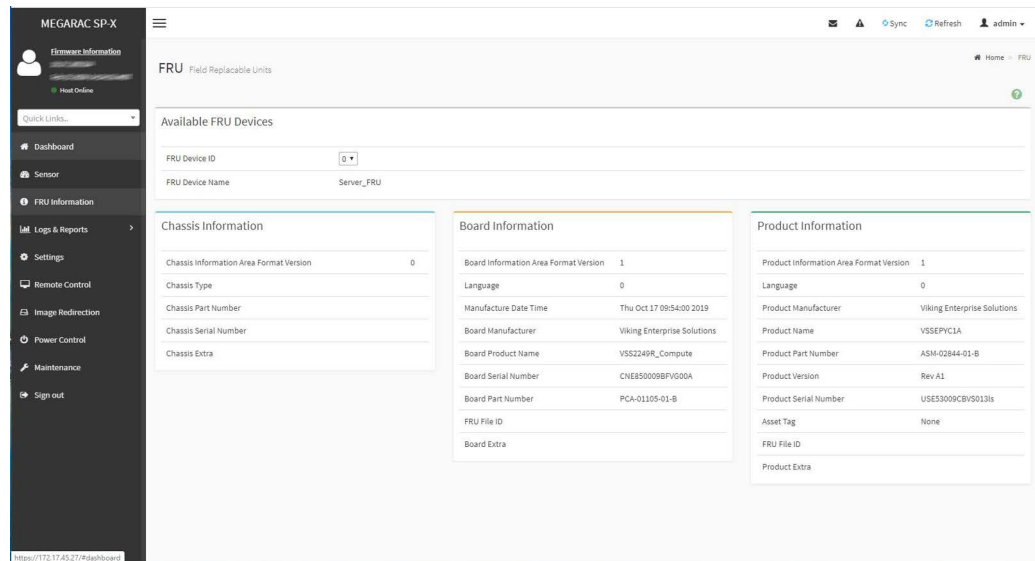

Figure 5.12 FRU Information menu
- Click **FRU Information** to view the chassis, board, and product information related to the selected FRU device as shown in Figure 5.12.